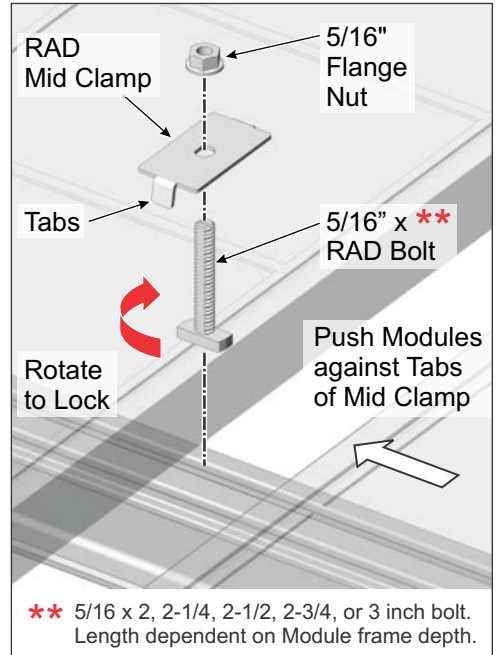

Figure 8-7: Installing Modules using RAD Mid Clamp
- C. Insert one 5/16" x 2, 2-1/4, 2-1/2, 2-3/4, or 3" RAD bolt (bolt length is dependent on depth of Module frame) into each Rail, next to the previously installed exterior Module. Twist RAD bolt to lock in place. (See Figure 8-7)